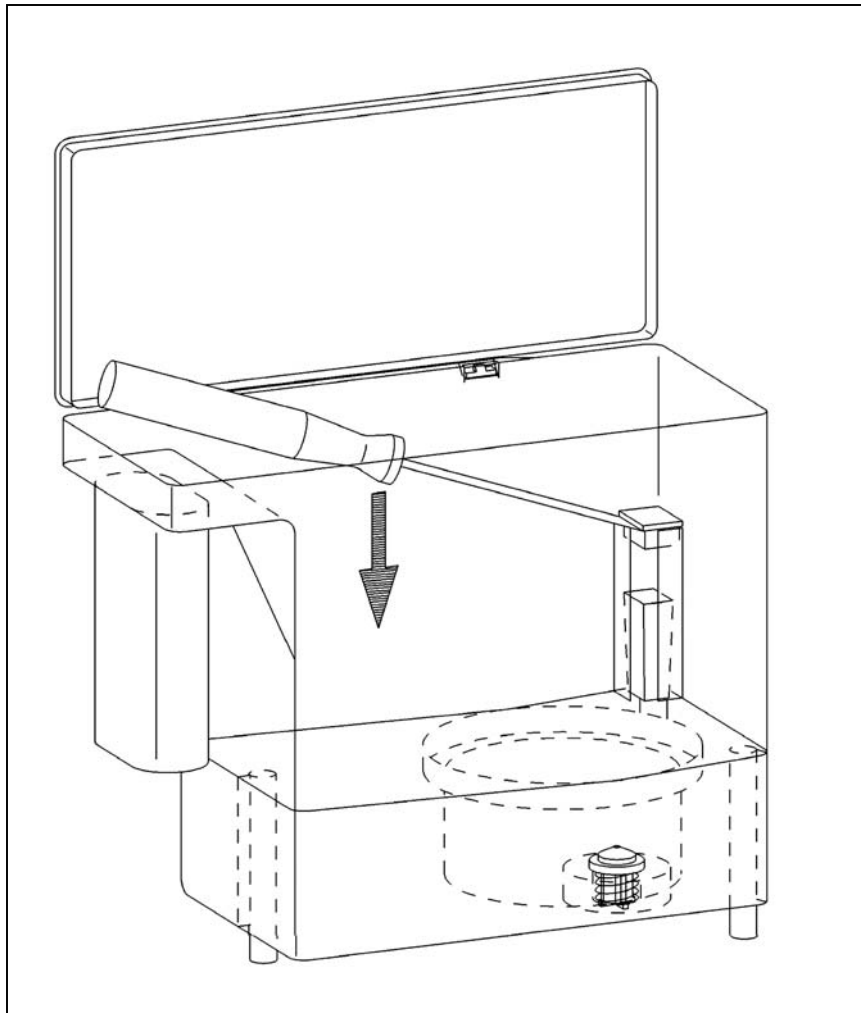

Figure 5-37: Removing the cap to access the float in the water container
3. Remove the cap from the Water Tank (Figure 5-37).